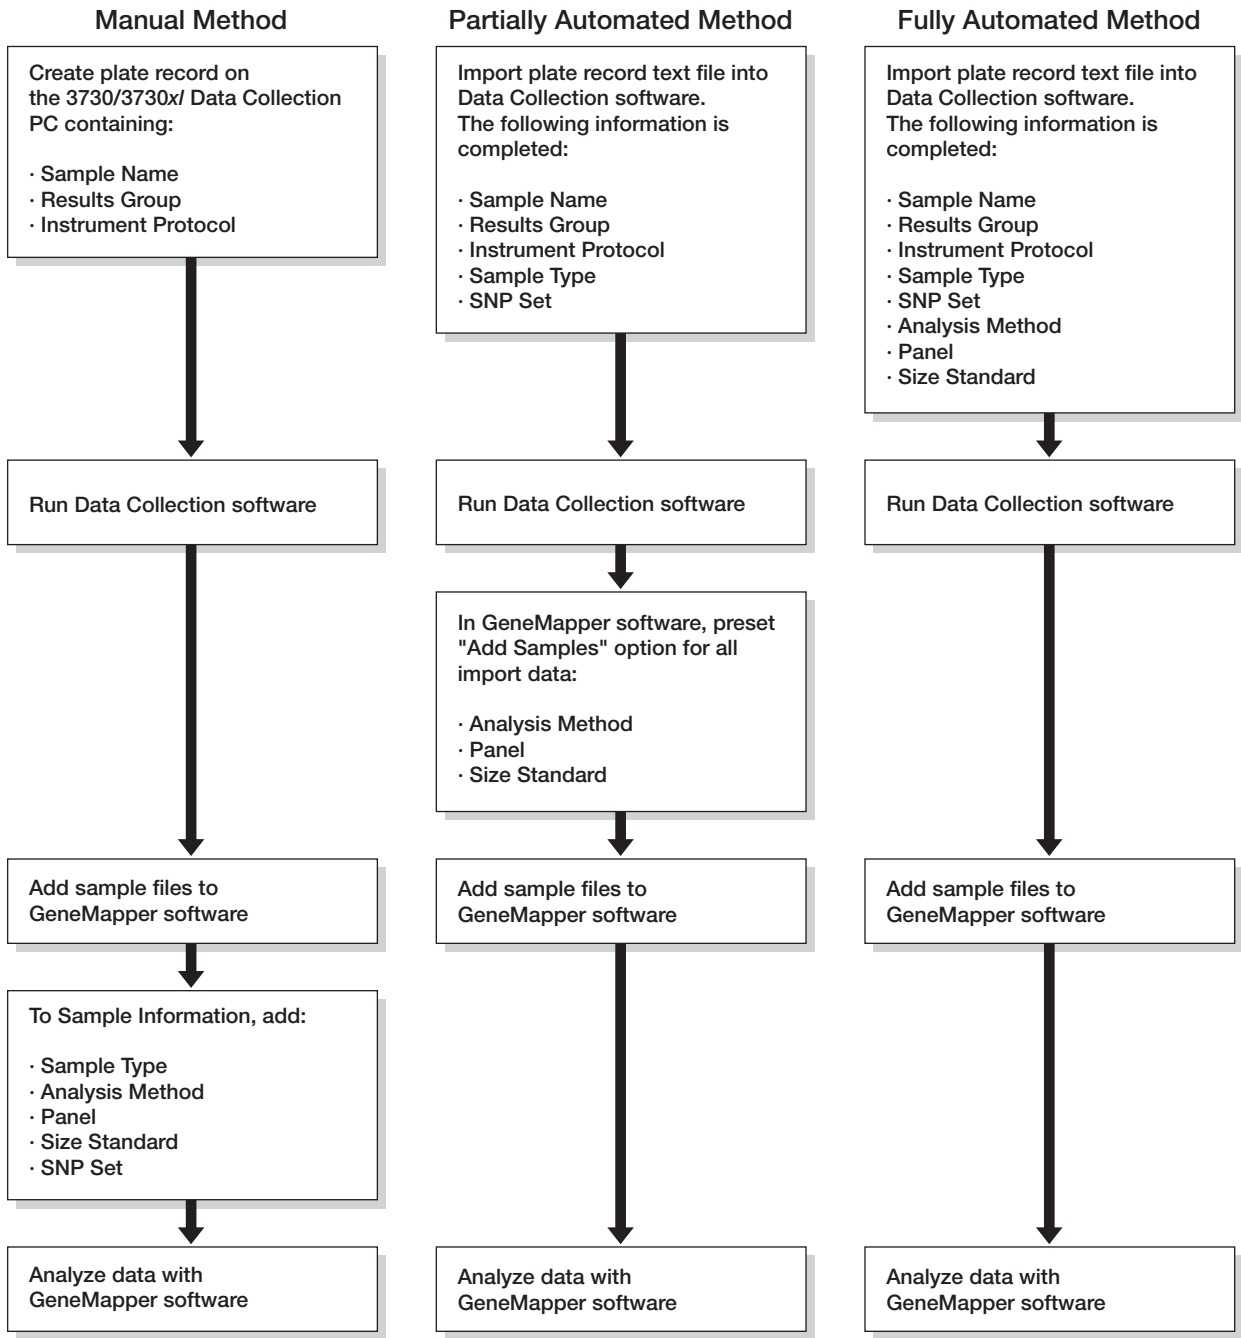

Figure 3-3 Three possible methods for creating plate records
There are several ways to create plate records. Figure 3-3 illustrates three possible methods: manual, partially automated, and fully automated.
Applied Biosystems recommends using a partially automated method to generate plate records (see Figure 3-3). Such a method helps eliminate problems arising from data-entry errors and can also greatly reduce the time spent setting up plate records.
10.	If running more than one plate, repeat steps 3 to 9 . <p>Note: At this point you have specified only the Sample Name, Results Group, and Instrument Protocol fields, as shown in the manual workflow in Figure 3-3 on page 3-29. You must specify the rest of the information in the plate record (specifically, in the GeneMapper Sample Table after adding sample files) before you can analyze the data using GeneMapper software.</p>